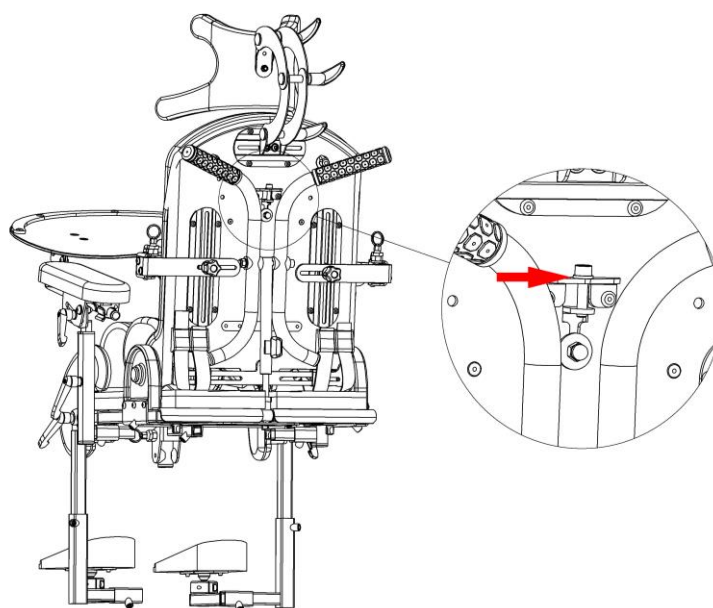
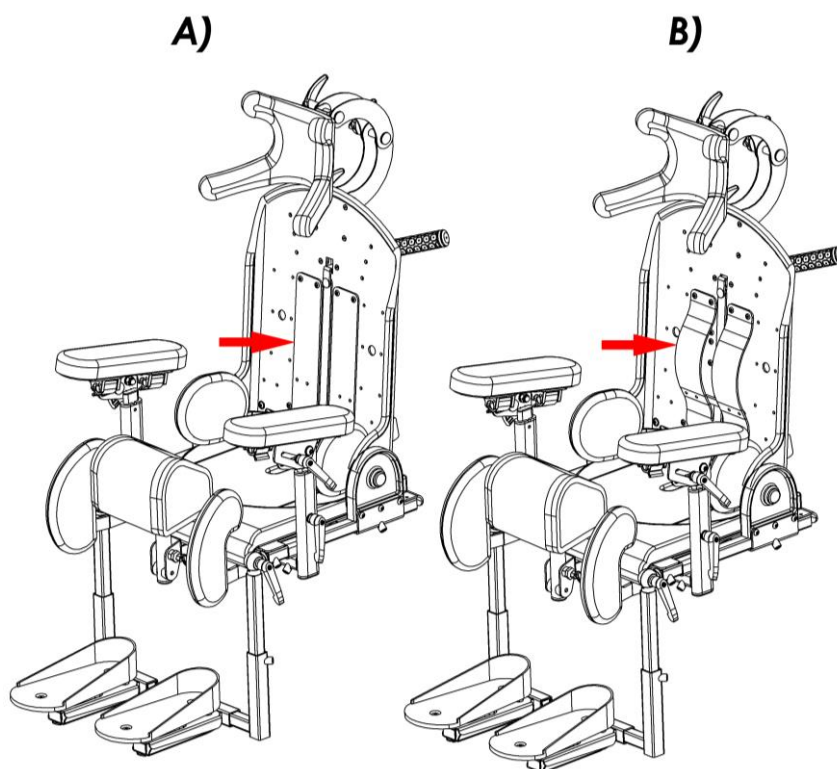

Fig. 44
Fig. 45
The lumbar support is adjusted by a screw at the back of the backrest, marked with the red arrow Fig. 44. Tightening the screw changes the shape of the back rest from completely flat profile, as in Fig. 45 (A) to curved profile mapping out the curvatures of the spine Fig. 45 (B).